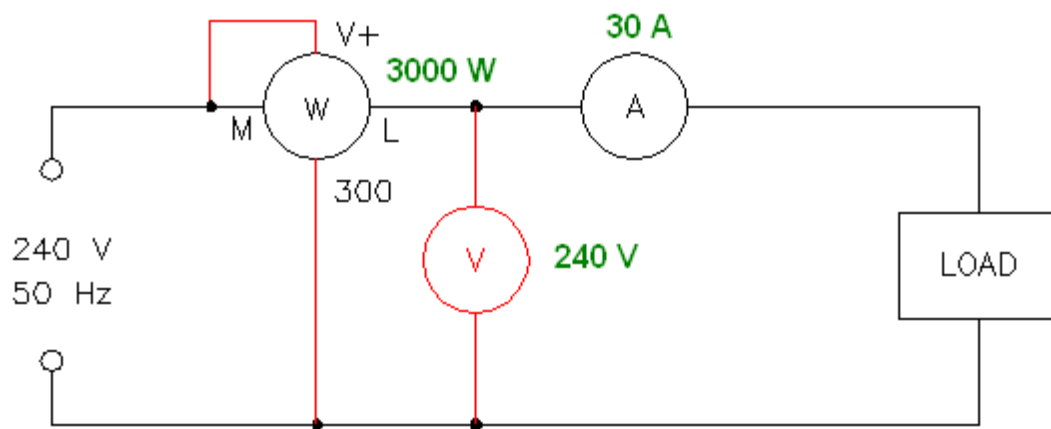

Figure 2 Drawing © North Metropolitan TAFE
6. The instruments necessary to measure the required values to construct a power triangle are shown in Figure 2.